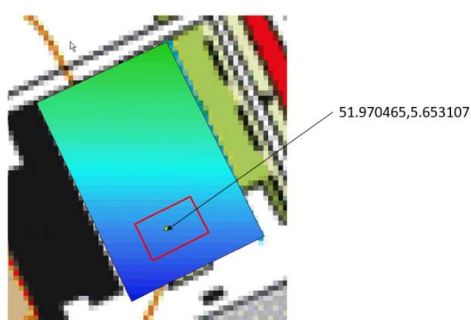

Figure 1: A heterogeneous field; therefore, sample a smaller area within the field.
- Record the coordinates of the central point of the sampled area (refer to Figures 1 and 2).
- If the soil in your field exhibits significant variation (heterogeneous, Figure 1), limit the sampled area to a maximum of 1 hectare.